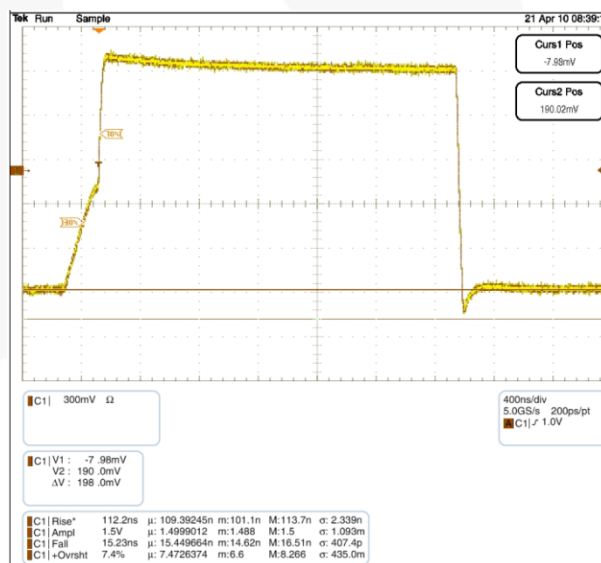

Figure 4. Waveform C: 600pF, Total R_{PU} : 2.2K Ω
between the ports until either of the port's $V_{CC}/2$ thresholds are reached. After the RC time constant has reached the $V_{CC}/2$ threshold of either port, the port's edge detector triggers both dynamic drivers to drive their respective ports in the LOW-to-HIGH (LH) direction, accelerating the rising edge. The resulting rise time resembles the scope shot in Figure 4. Effectively, two distinct slew rates appear in rise time. The first slew rate (slower) is the RC time constant of the bus. The second slew rate (much faster) is the dynamic driver accelerating the edge.
The FXMA2104 dynamic drivers have enough current-sourcing capability to drive a 400pF capacitive bus. This is beneficial when an I²C buffer / repeater is required. The I²C specification stipulates a maximum bus capacitance of 400pF. If an I²C segment exceeds 400pF, an I²C buffer / repeater is required to split the segment into two segments, each of which is less than 400pF. Figure 4 is a scope shot of an FXMA2104 driving a lumped load of 600pF. Notice the (30% - 70%) rise time is only 112ns (total R_{PU} = 2.2K ·). This is well below the maximum edge rate of 300ns. Not only does the FXMA2104 drive 400pF; it also provides excellent headroom below the I²C specification maximum edge rate of 300ns.